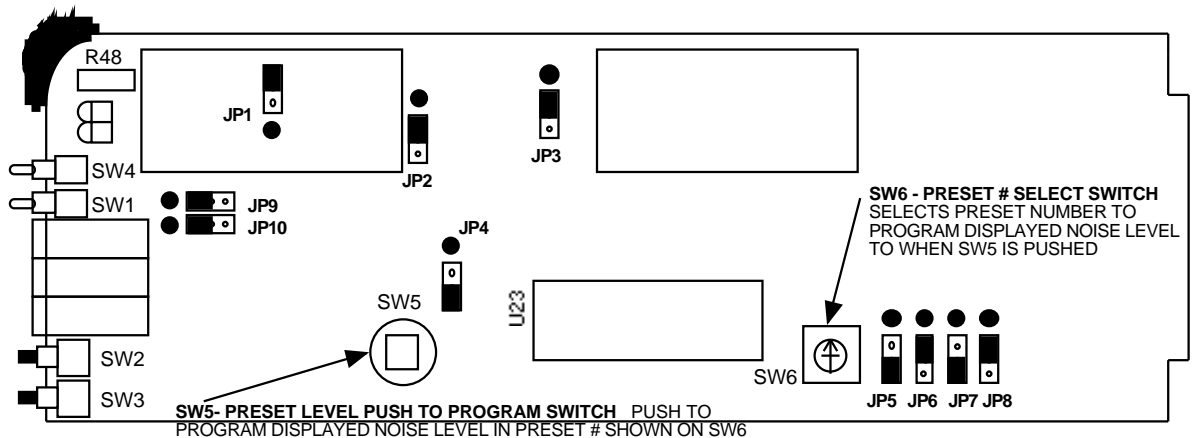

FIGURE 2.4 2007 On-Card Jumpers and Controls
2.4 Accessing and Changing On-Card Jumpers and Controls - Figure 2.4 shows jumpers (with factory settings) and other on-card controls. To remove the printed circuit board (PCB) from the extrusion for access to the jumpers and controls:
- 3.) With the **power supply disconnected**, move jumpers to the desired positions (Figure 2.4).
- 7.) Install four (4) **rear panel screws**.
- 1.) If required, check that on-card jumpers are set to the desired positions (Figure 2.4)
- 4.) Set the desired noise level by pushing SW2 or SW3. If numbers 0 to 9 appear when pushing SW2 or SW3, the 2007 is set for the preset level mode (with on-card jumper JP7, Figure 2.4). See section 2.5.2 for noise level setting information.
2.5.3 Noise Level Setting, Preset Level Mode - Preset level selection is accomplished when the on board, but not front panel accessible, three-pin jumper (JP7) (Figure 2.4) is set to the “preset level” (DOT) position. Ten preset preset levels (0-9) can be selected as follows:
1. Remove the 2007 PCB (see section 2.4) to access the preset level selecting decimal switch (SW6) and the push to program switch (SW5) (Figure 2.4). With the display mode jumper (JP7) set in the noise level mode, the noise level set switches (SW2, SW3) are pushed to the noise level desired (Figure 2.2).
2. The decimal switch (SW6) is set to the preset level number desired to be programmed (Figure 2.4).
3. The programming button (SW5) is pushed to program the currently displayed noise level into that preset level number (Figure 2.4).
2.5.5 Remote Operation - Noise level (either continuous or preset noise levels), test carrier on/off, and termination of carrier or noise can be remotely commanded from an external (not supplied) PC using a simple DOS program. To place the 2007 in the Remote mode, place on-card jumper JP9 in the NON-DOT position (Figure 2.4) and observe yellow LED DS1 (Figure 2.2) is on. Serial ASYNC (8N1) data is received via RS232C receiver U21 and sent via RS232C transmitter U38 at a 2.4 kB/s data rate. When in the remote mode, either continuous or preset noise levels can be adjusted, but programming of the preset levels can only be done locally. The 2007 noise power settings can be automatically calibrated with an HP3708A Noise Test Set. Contact Cross Technologies, Inc. (770-886-8005) for details.
3.2.3 Noise Level Setting, Preset Level Mode - Preset level selection is accomplished when the on board, but not front panel accessible, three-pin jumper (JP7) (Figure 2.4) is set to the “preset level” (DOT) position. Ten preset levels (0-9) can be selected as follows:
1. The 2007 is placed on an extender card to access the preset level selecting decimal switch (SW6) and the push to program switch (SW5) (Figure 2.4). With the display mode jumper (JP7) set in the noise level mode, the noise level set switches (SW2, SW3) are pushed to the noise level desired (Figure 2.2).